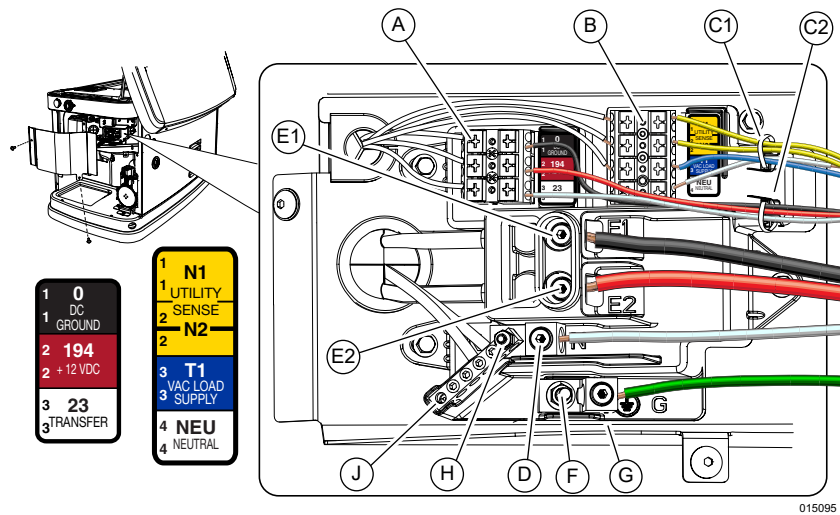

Figure 6-1. Electrical Wiring Connections
See Figure 6-1. The electrical wiring enclosure is located behind an access panel on intake end of unit. Remove intake side panel as directed in Intake Side Panel Removal, and then remove access panel. Connect wires according to diagram and tables.
4. See Figure 6-1. Strip insulation from wire ends. Do not remove excessive insulation. Route sense wires through supplied wire tie (C1), and connect to sense wire terminal block (B). Push down on spring loaded connection point with a flat head screwdriver, insert wire, and release.
5. Using the same process, route control wires through second supplied wire tie (C2), and connect to control wire terminal block (A).
- See Figure 6-1. Loosen lugs at neutral (D), ground (G), and power wire (mains) terminals (E1, E2).
See Figure 6-1. Connect a suitably sized system bonding jumper in accordance with NEC Table 250.102(C)(1) from neutral bar (J) to ground stud (F). Tighten ground stud nut to 35 **in-lbs** (3.95 Nm). This is required when generator is installed as a separately derived system. Generator will also require a connection to a grounding electrode system in accordance with NEC Article 250.64. It is not required when generator is a backup source in a utility supplied electrical system with a 2-pole transfer switch. Installation must be made in accordance with NEC Articles 250.30 and 250.35(A) if generator will be installed as a separately derived system.